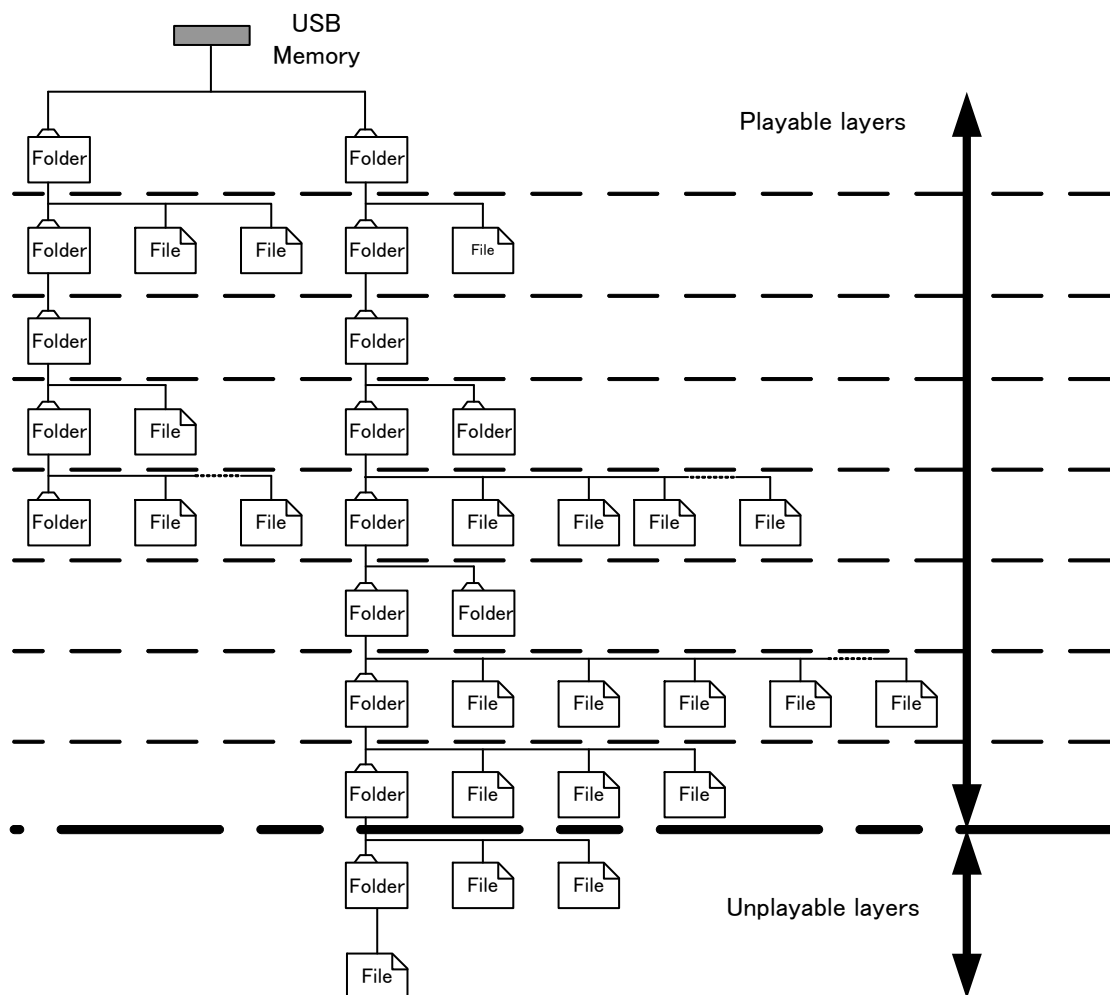

Figure 23 Example of Memory Layers
- The searchable folder hierarchy is of 8 layers containing the root folder. Figure 23 shows an example of memory layers.